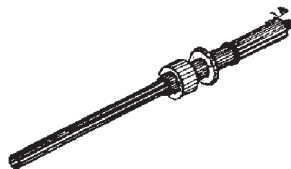

Fig. C.4
- 3) Insert the cable in the connector until it protrudes at least 1.5 mm on the other side (see Fig. C.4)